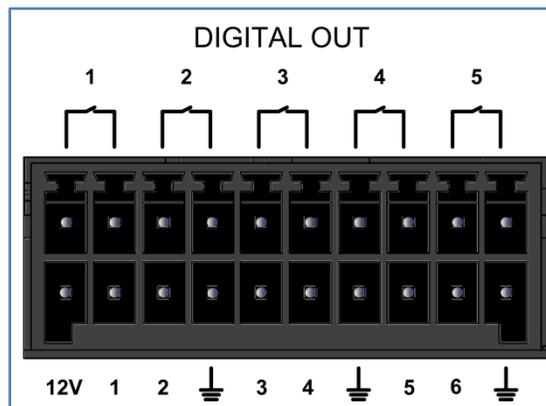

Figure 6-7: Auxiliary I/O Connector
Auxiliary input and output connections are made using the Auxiliary I/O Connector, shown in Figure 6-7, located on the Symphony Dispatch Platform's rear panel. The connector has six (6) optocoupler auxiliary input lines (bottom row) and five (5) output lines (top row) that can be used for interfacing with two-state external devices.